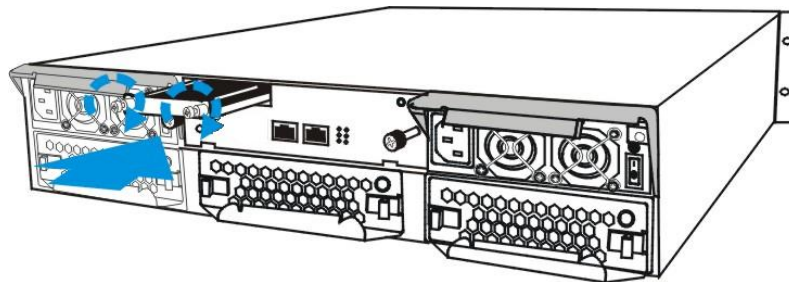

Fig. 2.5 Installing the BBU Module
3. Secure the BBU module to the chassis. Fasten the two (2) retention screws on the BBU module rear panel to secure the BBU module to the chassis. (See Figure 2.5.)